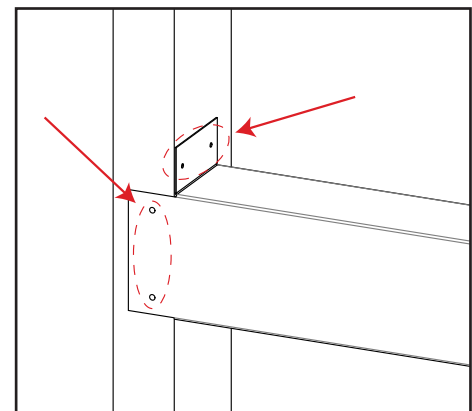

Figure 18: Steel Stud Framing Attachment
4. Attach the steel stud to the framing studs using the holes shown in Figure 18.